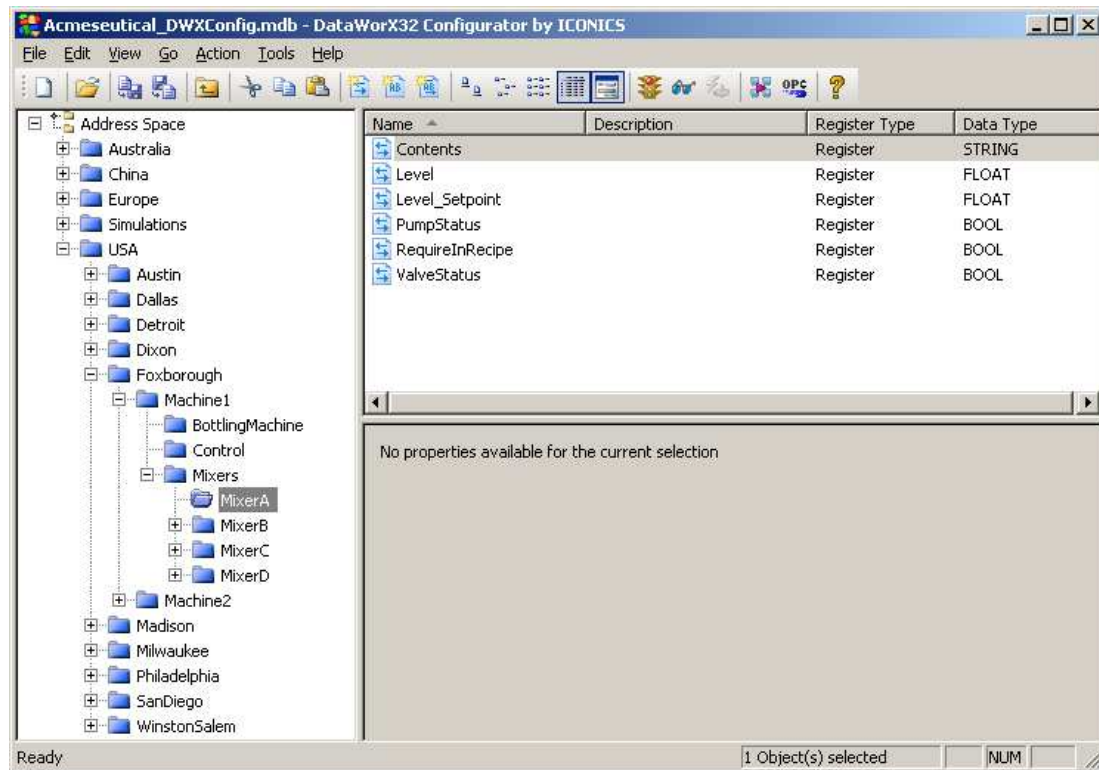

Figure L4.1 - Acmeseutical DataWorX32 Configuration
2. When the configurator comes up, you should see a configuration similar to the one shown in Figure L4.1.